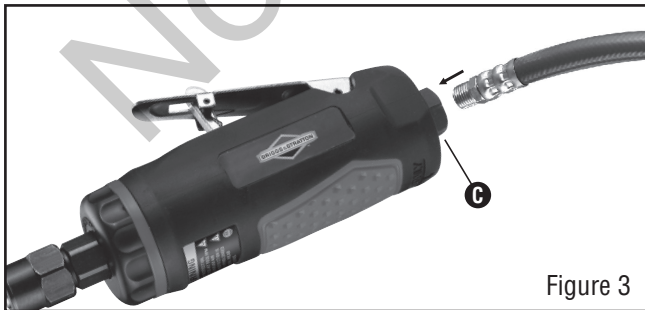

Figure 3
3. Mount a leader hose (not included) by hand into the air inlet (C). (See Figure 3)